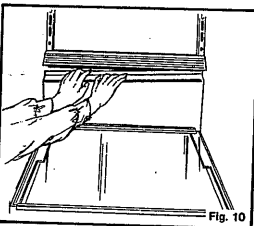

Fig. 10
2. Reach in, push down on top surface of flexible air duct cover and pry its top edge out from under the louvered vent attached to rear cabinet wall (Fig. 10).